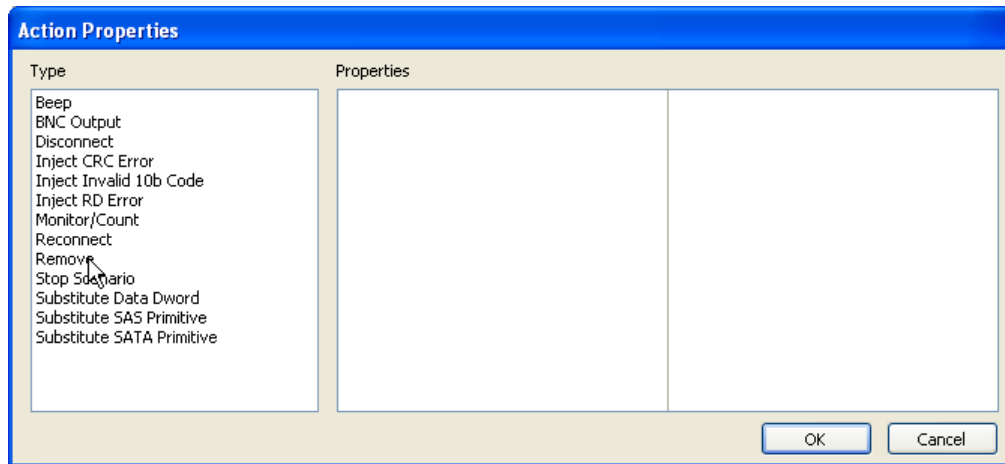

Figure 5.9 Example 1: Action Properties Dialog Box
- Step 8** The Action Properties dialog box appears (Figure 5.9). In the Type column on the left, choose the action you want to occur when an RRDY is detected. In this example, it is the Remove action.